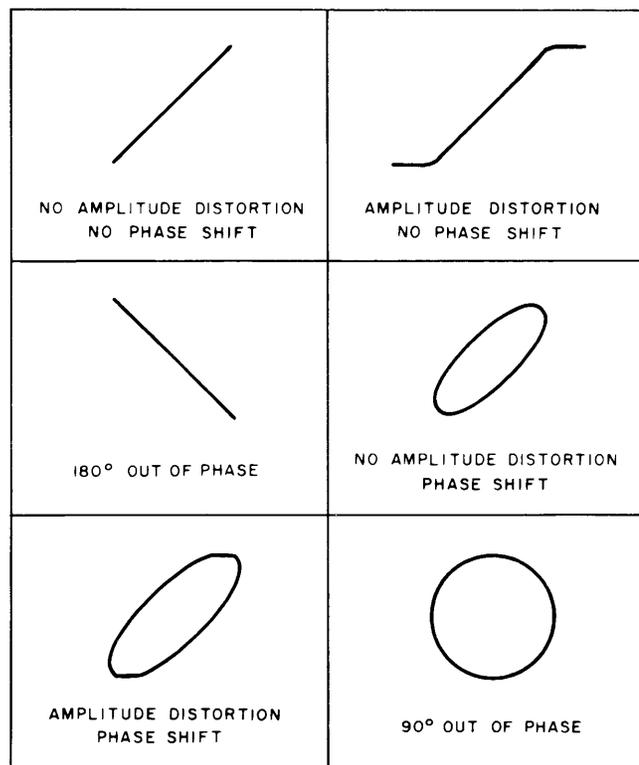

Fig. 40. Typical phase measurement oscilloscope displays.
7. Some typical results are shown in Fig. 40. If the two signals are in phase, the oscilloscope trace is a straight diagonal line. If the vertical and horizontal gain are properly adjusted, this line is at a  $45^\circ$  angle.